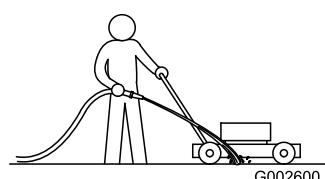

Figure 53
1. With the engine running on a flat paved surface, spray a stream of water in front of the **right** rear wheel (Figure 53).